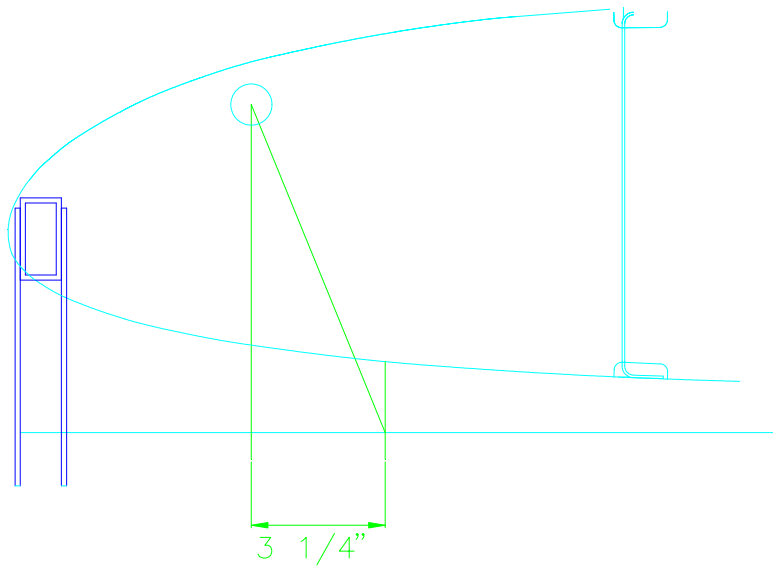

Figure 15.15.3
- 6) Draw a vertical line ( $90^\circ$  to the bottom of FUS-27). Center it on the 1" hole cut earlier in the part. Mark the bottom of FUS-27  $3 \frac{1}{4}$ " aft of the vertical line (eye ball is close enough). Extend a line down to the mark. Figure 15.15.3.